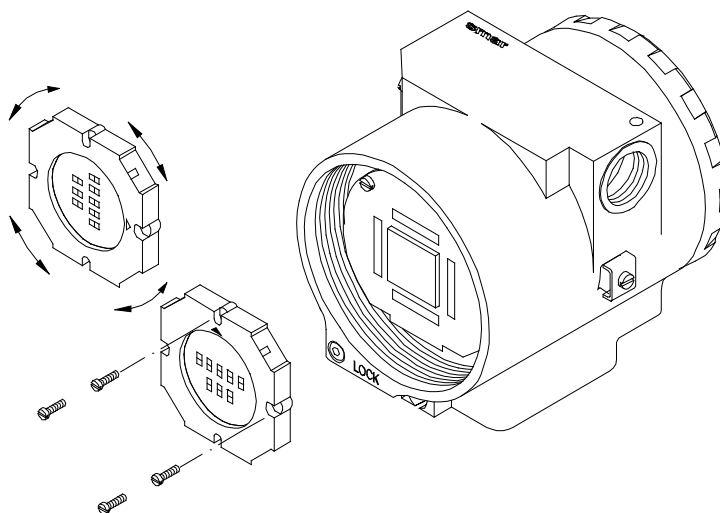

Figure 5.2 – Four Possible Positions of the Display
- Put input board into housing (5).
- Connect the display to the main board, observing the four mounting positions (see Figure 5.2) "▲" symbol should point in the direction desired as UP.
- Fit the cover (1) and lock it using the locking screw (4).